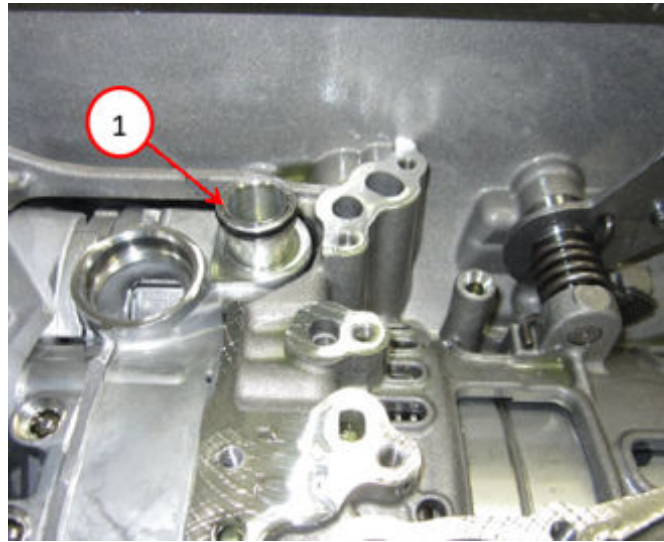

Fig. 40
62. Replace the fluid transfer tube O-rings and install the fluid transfer tube to the transmission case Fig. 40.